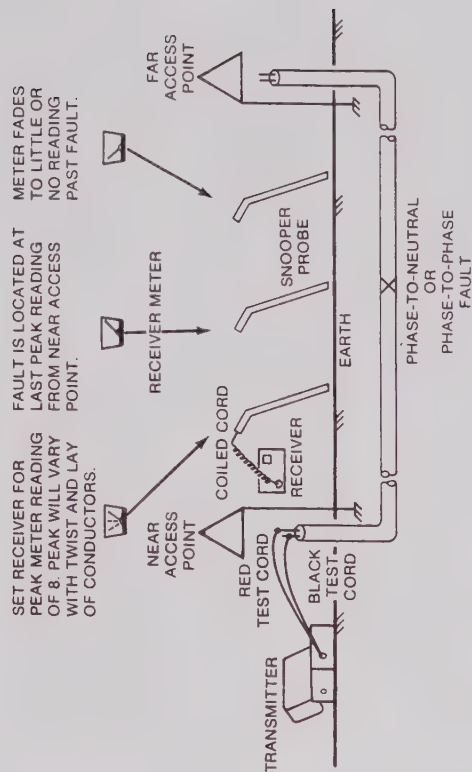

Figure 4-3.
4. Plug the jack end of the red/black test cord into the RED/BLACK TEST CORD jack receptacle on the transmitter (see Figure 4-3).